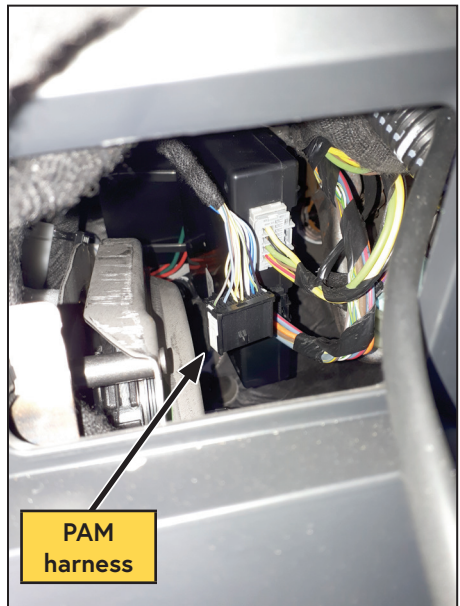

Figure 107 — Parking Assist Control Module (PAM)
- ☐ Locate the Parking Assist Control Module (PAM) (located on the driver side, under the dashboard and above the parking brake). The PAM harness will either be plugged into a blanking plug, or the PAM module (Figure 107).